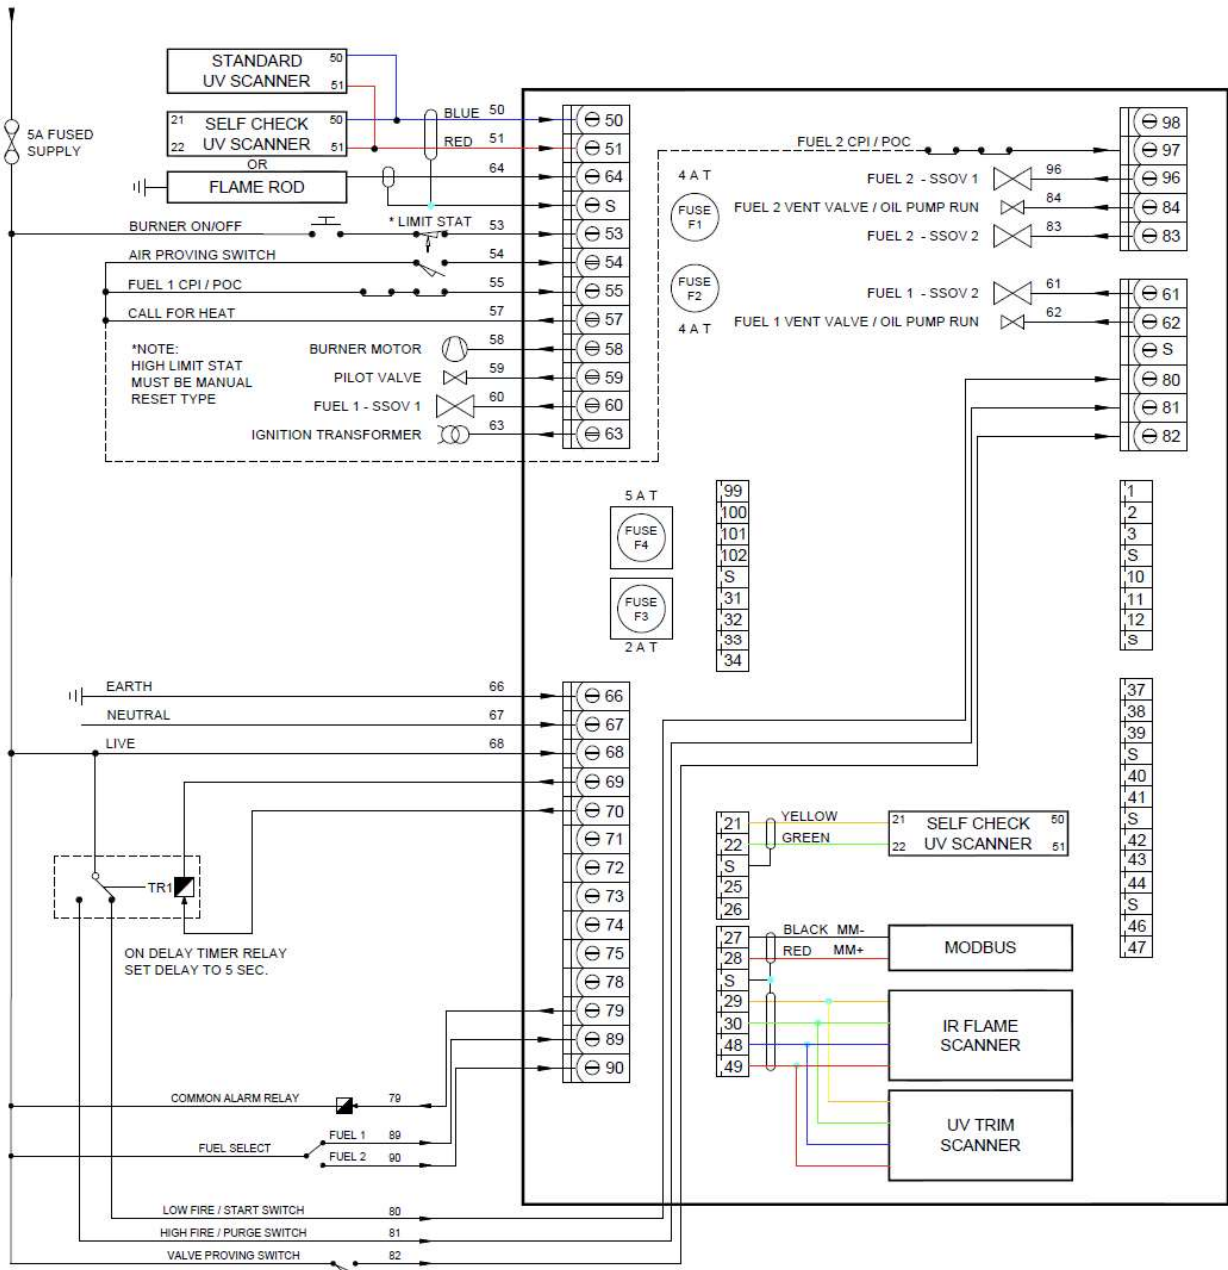

Figure 134 - On/Off Burner Flame Safeguard Schematic
The wiring is to be completed as shown in the schematic in Figure 134. A simple ON-delay timer relay such as Allen-Bradley 700-FEA6TU23 or 700-FEM6TU23 set in mode (A) with a 5 second delay is required.